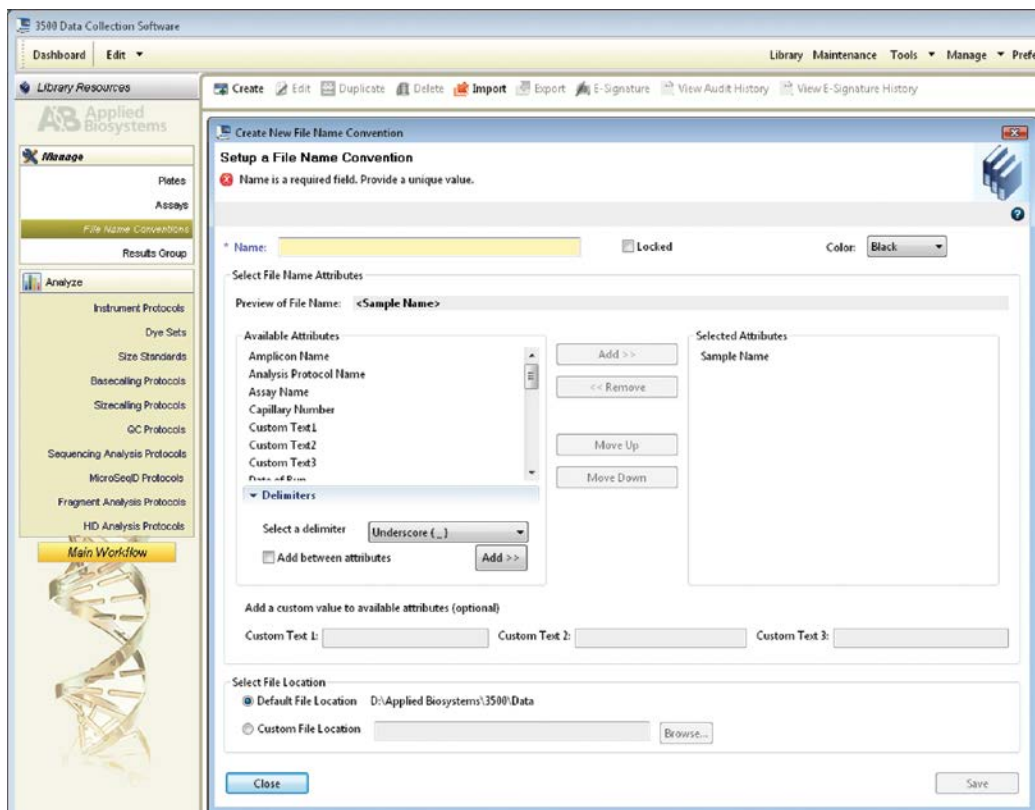

Figure 8. The Create New File Name Convention window.
6. To create a new File Name Convention (Figure 8), navigate to the Library. Select “File Name Conventions”, then select “Create”. Alternatively, a previously created File Name Convention may be used.